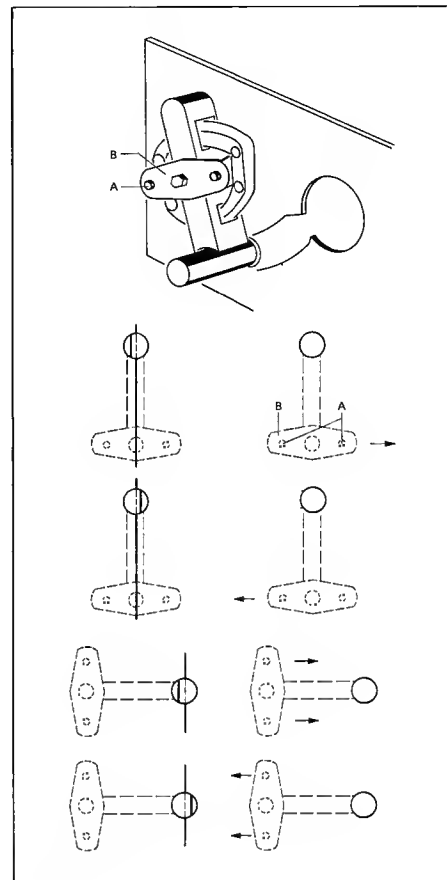

Fig. 4.20
- The support plate can now be shifted according to Fig. 4.20. Retighten the screws [A] when the position is correct.